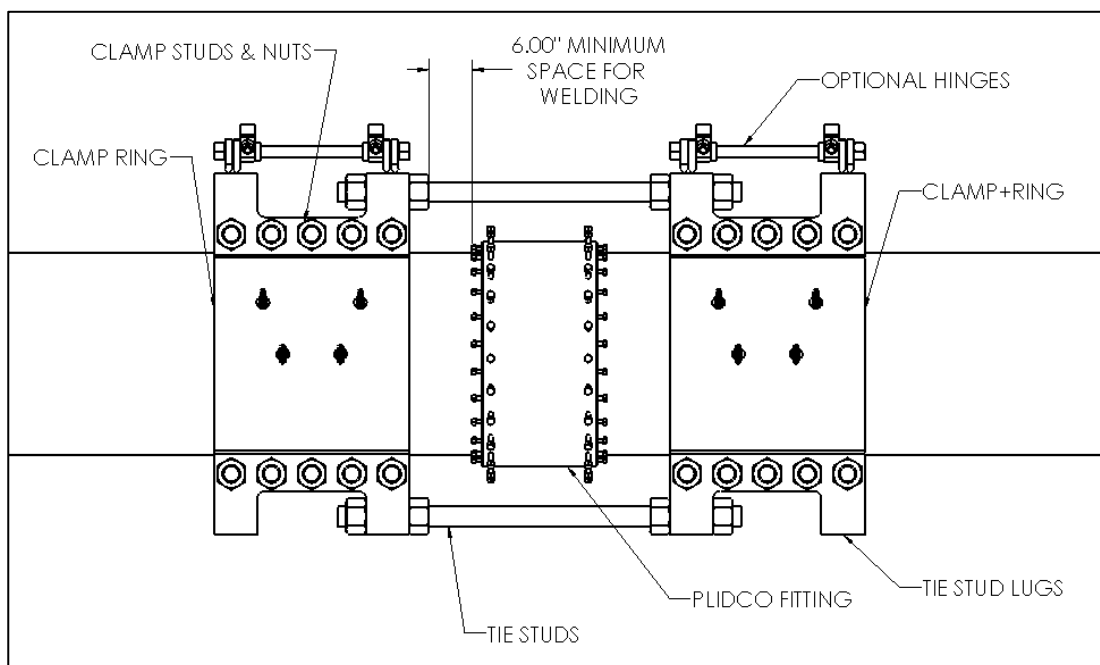
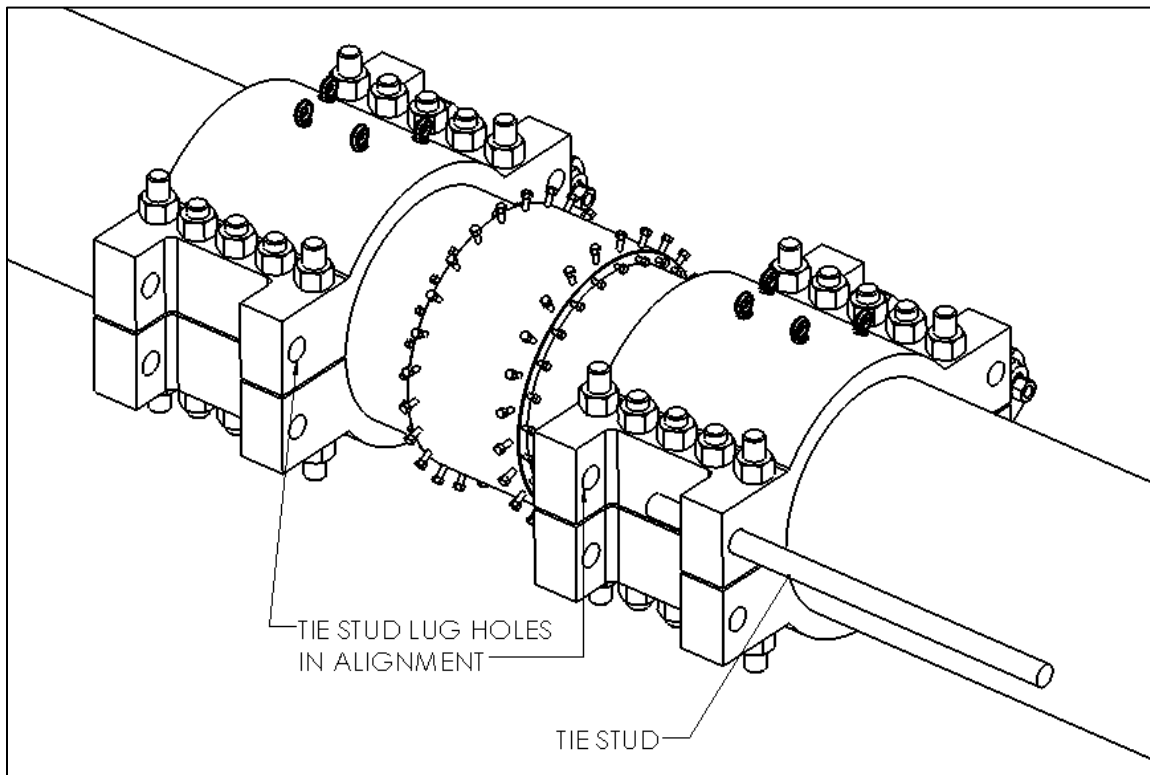

Figure 4
Figure 5
6. Leave approximately six (6) inches of clearance between the inside tie stud nuts and the PLIDCO Fitting. This should allow adequate room for welding of the PLIDCO Fitting if required. If the PLIDCO Fitting is not to be welded, the PLIDCO Clamp+Ring can be positioned closer if desired. See Figure 4 for this setup and labelled components of the PLIDCO Clamp+Ring.
7. With the Clamp+Rings loosely positioned around the pipe, align the tie stud lug holes, then insert the tie studs as shown in Figure 5. Hand tighten a nut on each side of the lugs for a total of four nuts for each tie stud as shown in Figure 4. Ensure there is full nut engagement by having a minimum of 1/4 inch (6.4 mm or two threads) of the studs extending beyond the outer nuts. The tie stud nuts need only be tightened to prevent the nuts from loosening over time due to vibration. A high pre-stress on the tie studs is undesirable and could be detrimental.